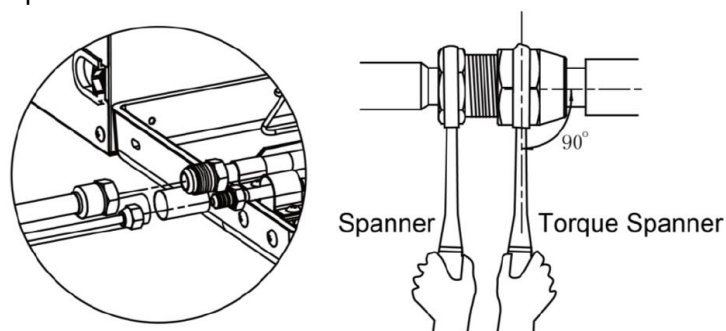

Fig.13
(1) Conform to the following principles during piping connection: Connection pipeline should be as short as possible. The height difference between indoor and outdoor units should be as short as possible. Keep number of bends as little as possible. The radius of curvature should be as large as possible.
(2) Weld the connection pipes between indoor and outdoor unit. Please strictly conform to the requirements for welding process. Rosin joints and pin holes are not allowable.
(3) When laying the pipes, be careful not to deform them. The radius of bending parts should be more than 200mm(7-7/8inch). The pipes cannot be repeatedly bent or stretched, otherwise the material will get harder. Do not bend or stretch the pipe over three times at the same position.
(4) Please use a torque wrench to connect union nut on the indoor unit. See Fig. 13.